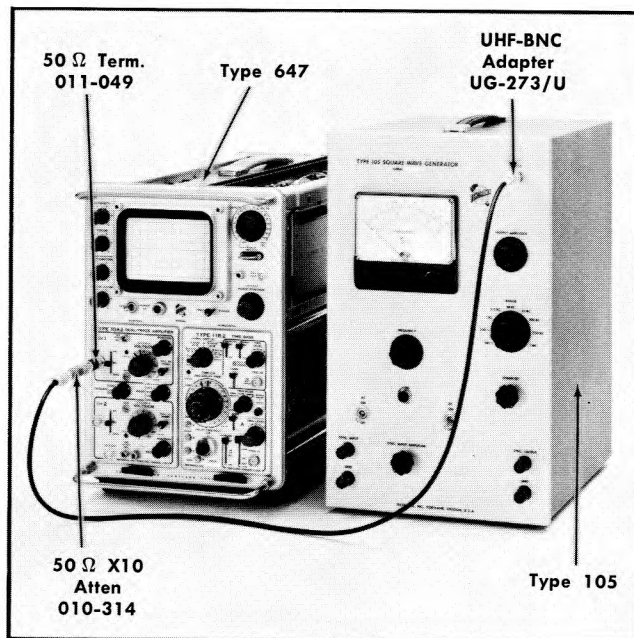

Fig. 4-2. Attenuator compensation setup.
- b. Connect the square-wave generator to the CH 1 input as shown in Fig. 4-2.